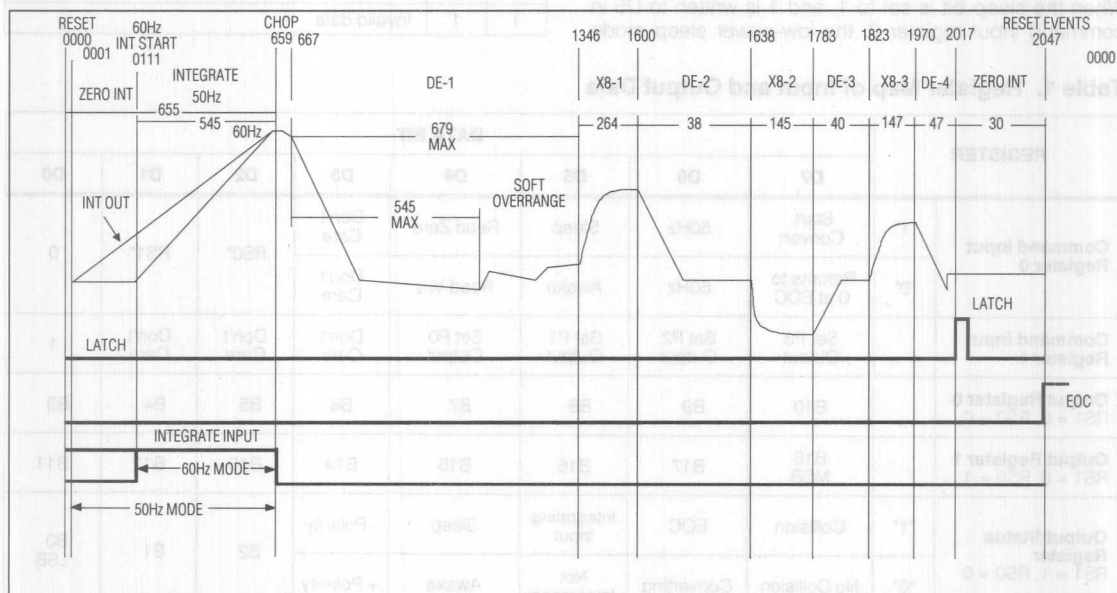

Figure 9. Conversion Timing (Negative Input Shown)
2. Poll either the EOC status register bit or the EOC line to determine conversion end and start time for the next conversion. EOC becomes 1 at conversion end at count 0000 of the conversion counter (Figure 9).
The MAX132 has two overrange levels (Figure 9). The first level is a soft overrange that is set by the user. Overrange is arbitrarily set at a value, preferably less than the 279,040 (including any zero offset) raw counts soft limit. A nonlinearity step of about 64 counts occurs at raw count 279,040 and again at 330,240 counts.
The zero-integrate phase zeros out the integrator to prepare for the next integration (Figure 9). This phase occurs at the beginning and end of each conversion. At power-up, or in the hold mode prior to a conversion, the MAX132 continues to zero integrate until a conversion starts. When a conversion starts in 60Hz mode, another 111 clocks of zero integrate are completed before the beginning of a conversion. In 50Hz mode, only one additional zero integrate is performed before the conversion starts. An additional 20 clocks of zero integrate occur at each conversion end.